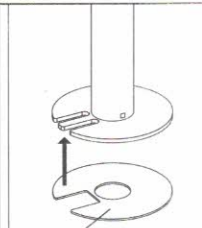

Figure 8
3. Attach Soft Pad(w2) to the Grommet Base Plate(m), see Figure 8.